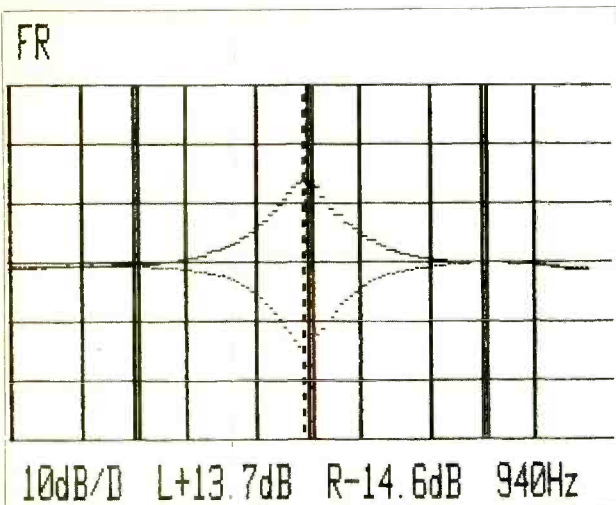

Fig. 4: dbx 20/20: Maximum boost and cut range, single band of the 20/20.
*Fig. 4* details the maximum boost and cut range of a single octave filter of the 20/20. Actual peak boost and